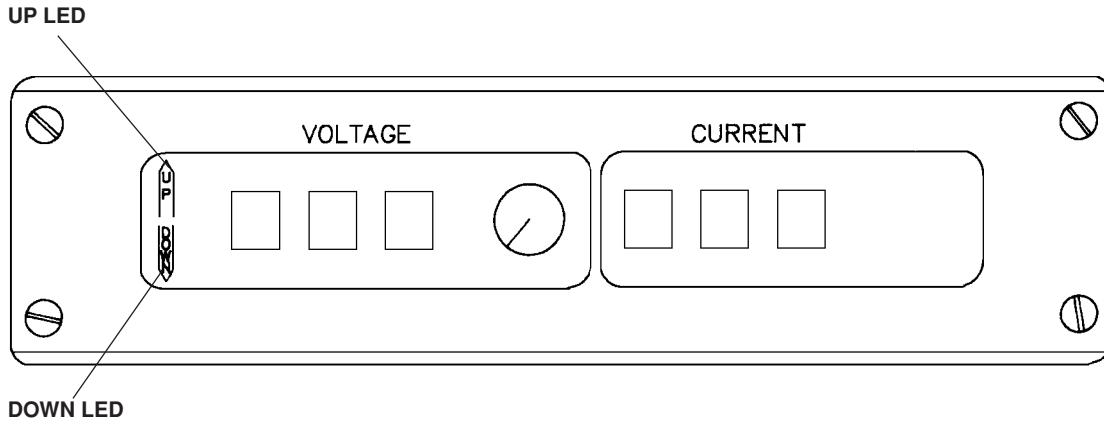

Figure 6-4 Programmable Remote (PR) V/C Front Panel Indicators
Programmable Remote (PR) V/C Module (Fig. 6-4)